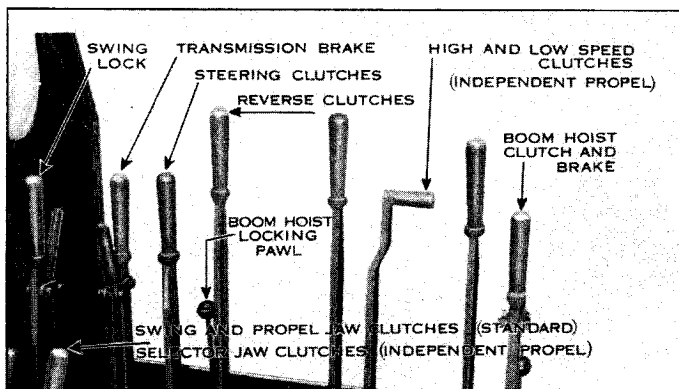

FIG. 3
The lever at the extreme left, in the bank of levers in front of the operator, engages the swing locking dog with the teeth of the swing rack. (See Fig. 3).
The lever, second from the left (with the toothed ratchet quadrant) in the bank of levers in front of the operator (See Fig. 3), controls the transmission brake shoe on the right hand reverse clutch housing.
The lever third from the left (next to the transmission Brake lever) in the bank of levers in front of the operator (See Fig. 3) controls the steering clutches on the propel shaft in the truck frame.
On standard machines, not equipped with "Independent Propelling," movement of the machine forward or backward is controlled by the Reverse Clutch lever in front of the operator. (See Fig. 3). (This lever is also used for swinging the machine, when the swing jaw clutch is engaged).
On machines equipped with "Independent Propelling" (Special Equipment), the machine can be propelled either forward or backward at high or low speed without interference with the other functions of the machine. In normal service the Selector Jaw Clutch lever (nearest the operator in the bank of levers at his left) (See Fig. 3), is set in the forward notch of its quadrant so that the selector jaw clutch is engaged to give high speed propelling in the forward direction (cat driving chains to the rear).
1. To propel forward, at high speed, push the Propelling Clutch lever (with the horizontal grip) (See Fig. 3) in the bank of levers in front of the operator.
The boom hoist clutches and brake are controlled by the lever at the extreme right in the bank of levers in front of the operator. (See Fig. 3). The lever has three positions:
The locking pawl, to prevent the boom "creeping" down, is operated by the small lever with ball grip to the left in front of the main lever bank. (See Fig. 3).